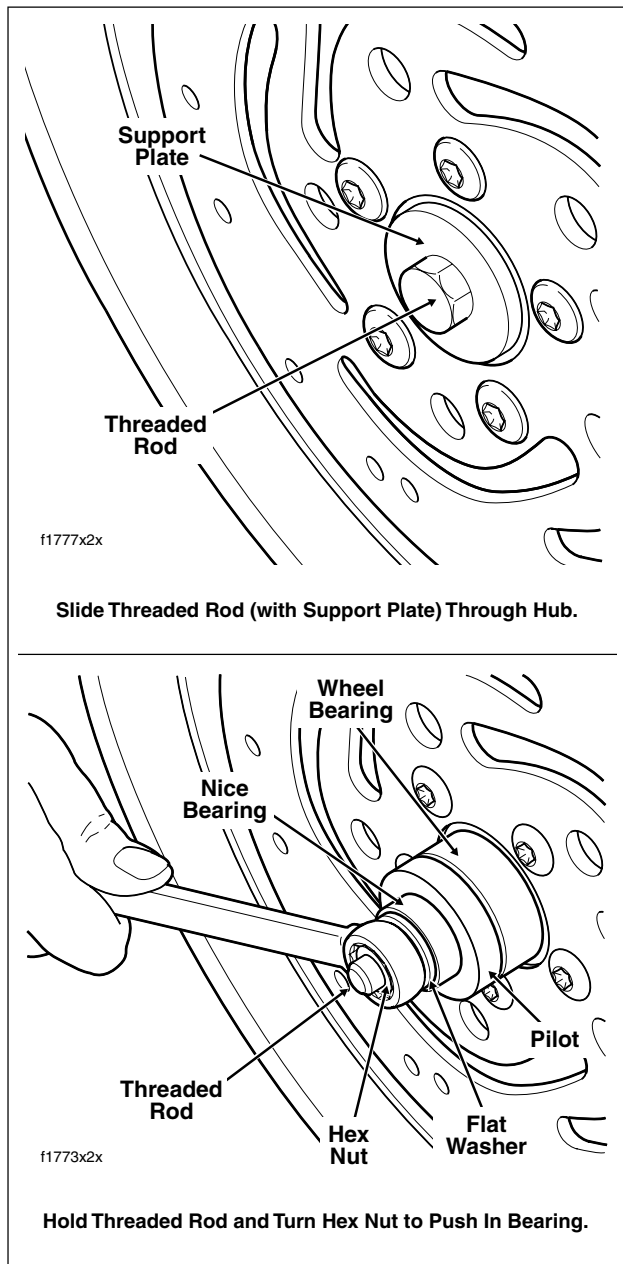

Figure 2-13. Install Sealed Wheel Bearings
- c. Slide support plate onto threaded rod. Slide rod through hub on the sprocket side of the wheel. See upper frame of Figure 2-13.
- f. Holding threaded rod on opposite side of wheel to prevent rotation, turn hex nut to install bearing. See lower frame of Figure 2-13. Bearing is fully seated when it makes firm contact with the counterbore.